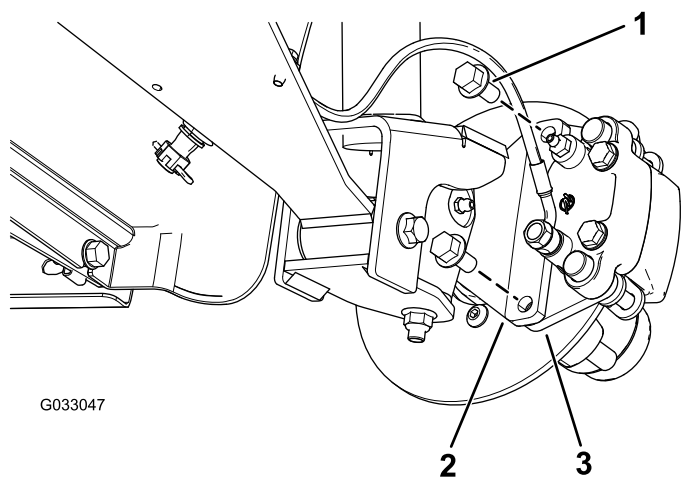
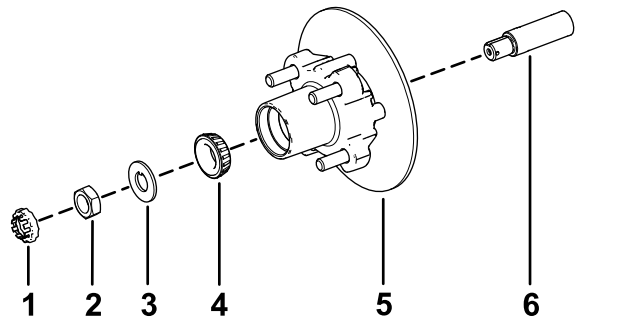

Figure 31
Figure 35
3. Remove the flange-head bolts (3/8 x 3/4 inch) that secure the bracket for the brake assembly to the spindle and separate the brake from the spindle (Figure 31).
1. Apply a light coat of the specified grease to the spindle (Figure 35).
2. Assemble the hub and rotor onto the spindle with the rotor inboard (Figure 35).
3. Assemble the outboard bearing onto the spindle and seat the bearing to the outboard race (Figure 35).
4. Assemble the tab washer onto the spindle (Figure 35).
5. Thread the spindle nut onto the spindle and tighten the nut to 15 N·m (11 ft-lb), while rotating the hub to seat the bearing (Figure 35).
2. Align the brake pads to either side of the rotor (Figure 31) and the holes in the caliper bracket with the holes in the brake mount of the spindle frame (Figure 35).
3. Secure the caliper bracket to the spindle frame (Figure 31) using the 2 flange-head bolts (3/8 x 3/4 inch).